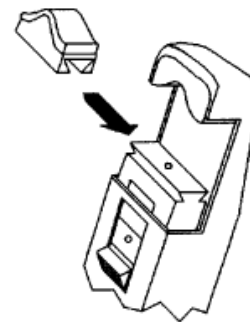

Figure 3
2. Select the appropriate adapter and slide it into the mating slotted channel of the F6121A with slight downward pressure, as shown in Figure 3.